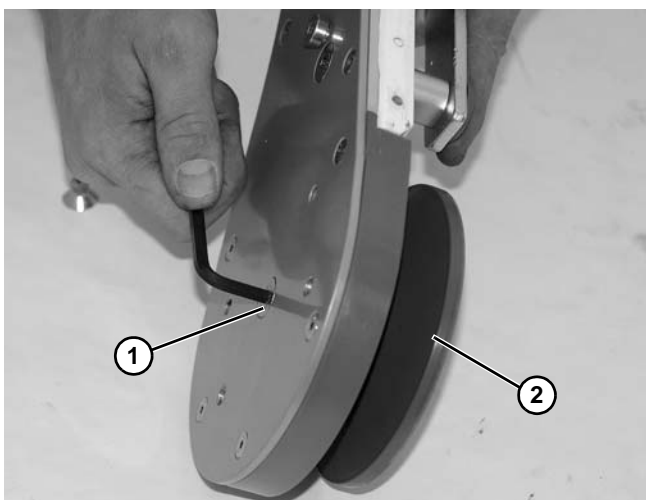

Figure 108
4. Remove flat head screw (Figure 108, item 1) and remove idler pulley (Figure 108, item 2) from idler head plate assembly.